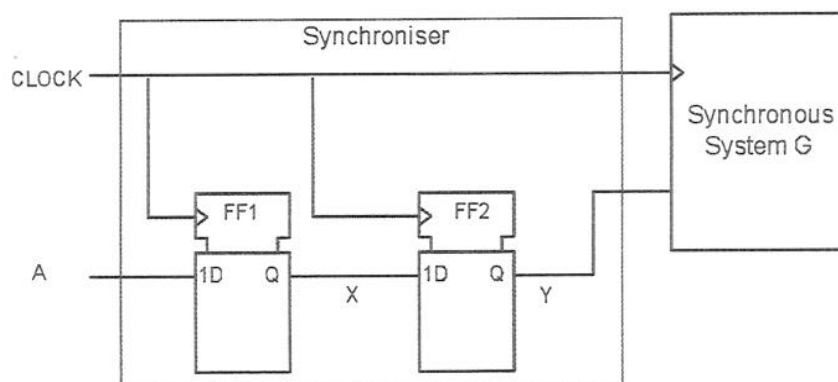

Figure 2.1
d) Figure 2.1 shows a circuit to synchronise an asynchronous input A to a synchronous system G. The synchronous system G can operate with a maximum clock frequency of 400 MHz and the input setup time is 2ns. Flip-flops FF1 and FF2 have a setup time of 1ns, a hold time of 0ns, and a clock-to-output delay of 2ns. Ignoring the possibility of metastability, what is the maximum clock frequency of this circuit?